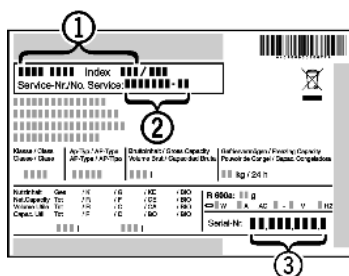

Fig. 37
- ▶ Read the appliance designation *Fig. 37 (1)*, service No. *Fig. 37 (2)* and serial No. *Fig. 37 (3)* off the type plate located inside the appliance on the left-hand side.
- ▶ Notify the customer service, specifying the fault, appliance designation *Fig. 37 (1)*, service No. *Fig. 37 (2)* and serial No. *Fig. 37 (3)*.